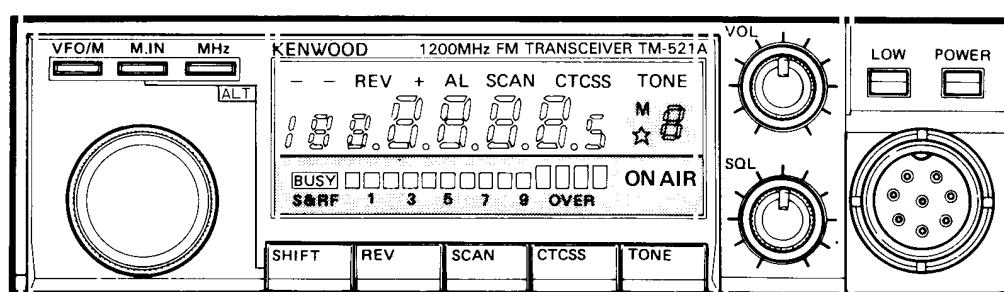

Fig. 25
- 6) Meter and display section should be set as follows Fig. 25.